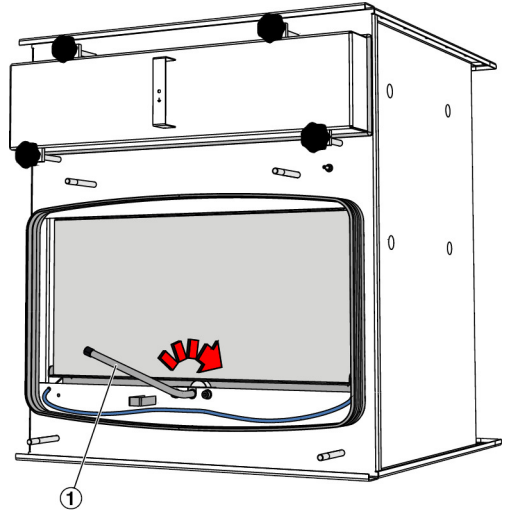

Fig. 9: Releasing the clamping frame
4. ▶ Release the clamping frame by turning the operating lever (Fig. 9/1) clockwise.
5. ▶ Release the clamping frame, Fig. 9.